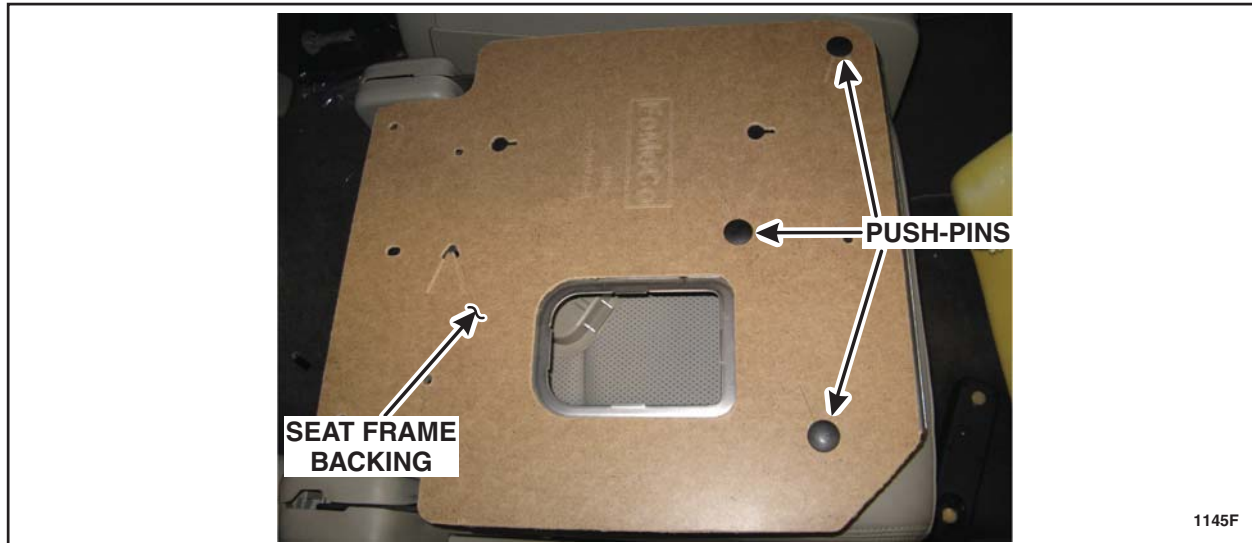

FIGURE 1
2. Remove the three (3) push-pins and the seat frame backing. See Figure 1.
14. Install the seat backrest frame backing and the three (3) push-pin retainers. See Figure 1, on Page 5.